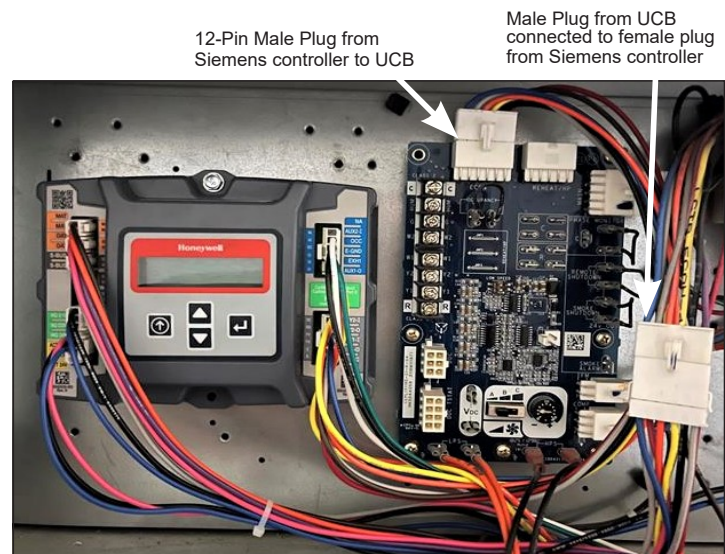

Figure 6 – Mount Controller Assembly in Unit Control Box next to Units with a UCB
Step 10: In parts bag provided with economizer is the 9901-2020 Jade Controller (Honeywell W7220). The economizer harness is attached to the controller. Screw the controller directly to the control box through pre-punched holes in control box to the left side of the UCD. See **Figure 6**.
Step 11: Unplug the 12-pin male ECON plug currently connected to the top left plug on the Unit Control Board (UCB) and attach the 12-pin male plug labeled ECON from the Honeywell controller to the UCB board port labeled ECON. See **Figure 6 & 7**.
Step 12: Connect the 12-pin male ECON plug removed from UCB to the 12-pin female plug labeled ECON-A from the Honeywell controller harness. See **Figure 6 & 8**.